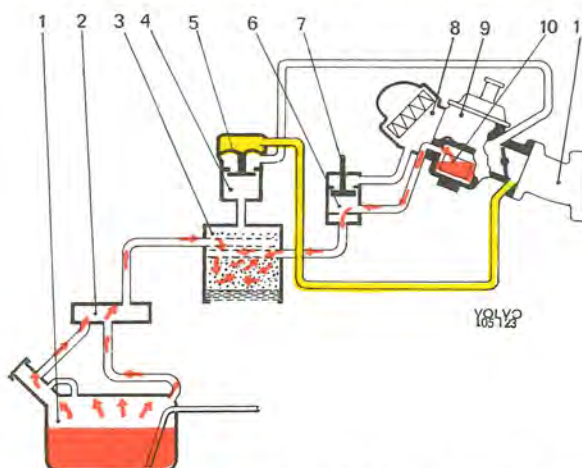
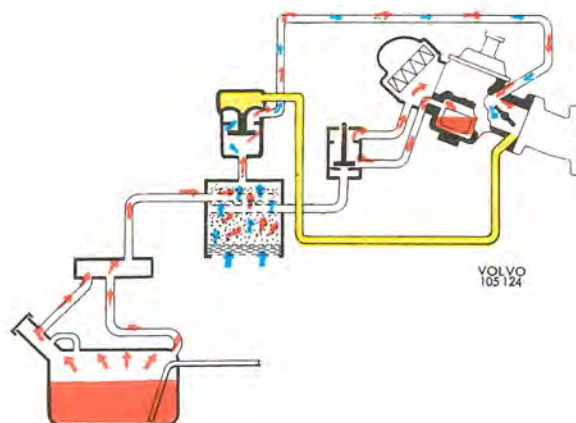

Fig. 2-67. Evaporative control system with control rod (7) at idle
Fig. 2-68. Evaporative control system with control rod at running
Vehicles for the USA market are fitted with an evaporative control system which prevents fuel fumes from being released out into the atmosphere. Its function is outlined in Fig. 2-67.
Fuel fumes from the floatchamber (10, Fig. 2-67) are led via the valve (6) to the venting filter when the engine has been switched on or during idling. Throttling shuts off the connection between the venting filter and the float chamber so that the fumes travel via the valve to the air cleaner (Fig. 2-68).
throttle facing the induction manifold, see Fig. 2-67. The vacuum in the induction manifold depends on the engine load and speed.
At high vacuum, the vacuum valve is kept closed (Fig. 2-67). When the vacuum drops the valve opens and air is drawn through the venting filter and vacuum valve to the carburettor venturi. Fuel fumes stored in
the venting filter follow the air into the engine and take part in the combustion (Fig. 2-68).